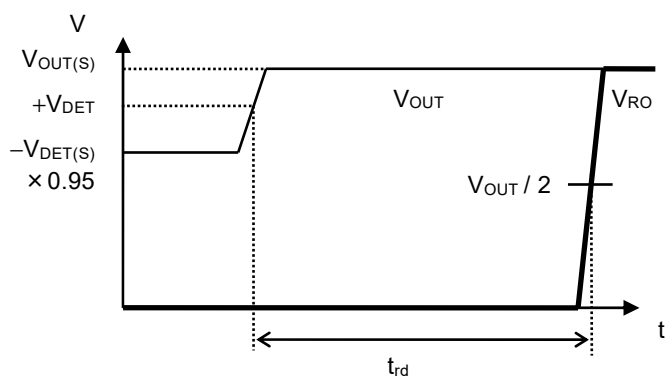

Figure 6 Release Delay Time
*3. The time from when V_{OUT} exceeds $+V_{\text{DET}}$ to when the RO pin output inverts (Refer to **Figure 6**). This value changes according to the release delay time and monitoring time adjustment capacitor (C_{DLY}).